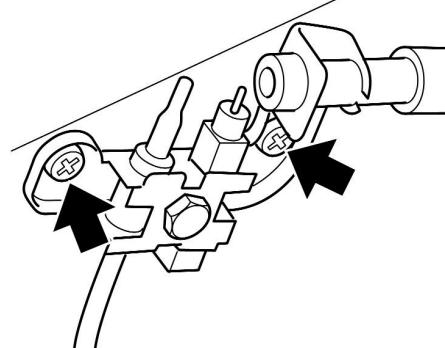

Figure 25. Pilot unit removal
6. Remove the two screws securing the pilot unit (See figure 25).